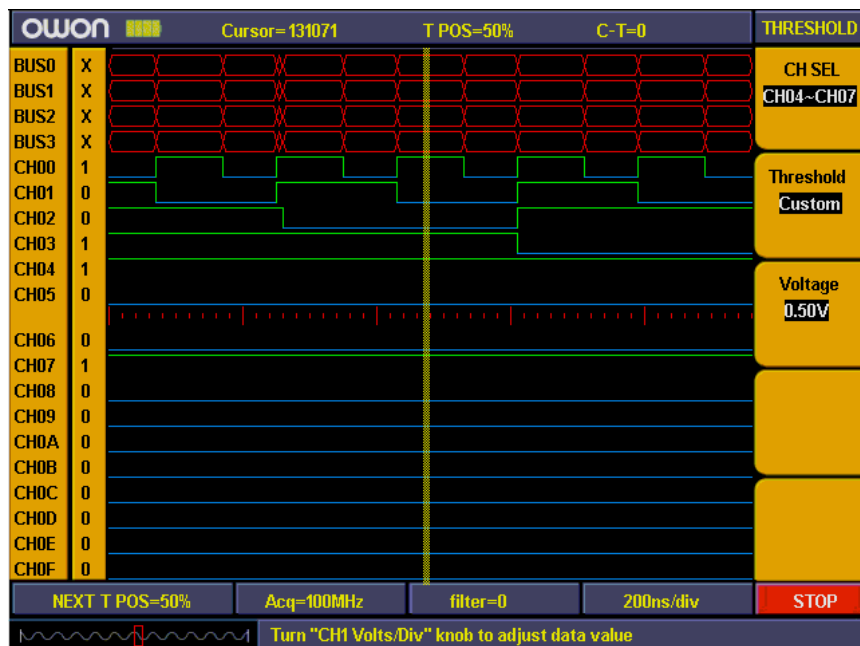

Fig. 93: Threshold custom setting
- Threshold voltage setting finished (refer to Fig.93).